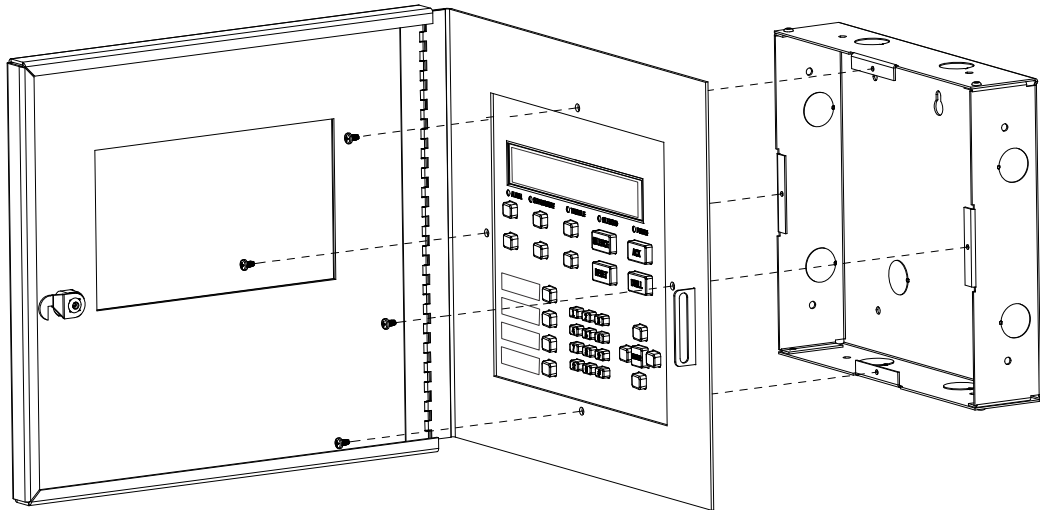

Figure 4.19 Attaching Annunciator / Door Assembly to Backbox
- Attach the door assembly to the backbox using the screws provided. Refer to Figure 4.19.